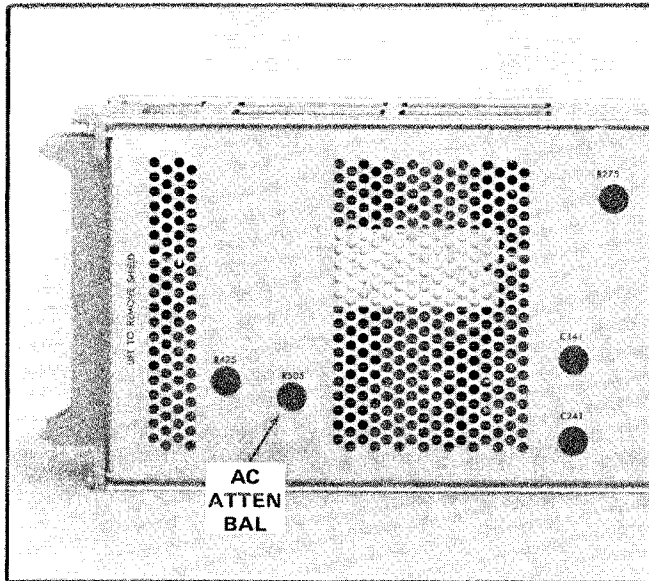

Fig. 2-2. Location of AC ATTEN BAL control.
1. AC ATTEN BAL (internal adjustment). When the LOW FREQ —3dB POINT switch is used to limit the low frequency response of the Type 7A22, the unit employs AC stabilization. This means that when the switch is set to any position except DC or DC OFFSET, the STEP ATTEN DC BAL and DC OFFSET controls become inoperative. VOLTS/DIV balance is then controlled with the AC ATTEN BAL, an internal adjustment (see Fig. 2-2).
d. Adjust R425 for no movement of trace as the VARIABLE control is rotated from stop to stop. (See Fig. 2-2 for location of adjustment.)